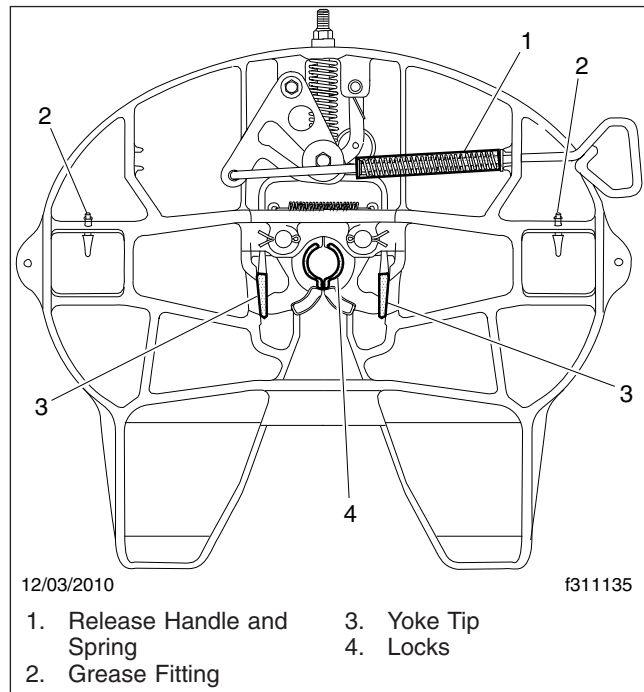

Fig. 12, Holland FW35 Fifth Wheel, Grease Lubrication
3. Grease the yoke tips, locks, and the release handle and spring; see **Fig. 12**. Grease the mounting bracket supports through the grease fittings. A "low temp" grade grease rated for -30°F (-34°C) or lower such as Cato Oil and